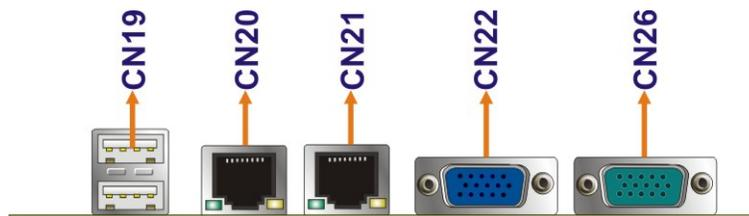

Figure 4-27: WAFER-MARK On-board External Interface Connectors
The WAFER-MARK external peripheral interface connectors are listed below and shown in **Figure 4-27**:
- CN Location:** See **Figure 4-27**
CN Location: See **Figure 4-27**